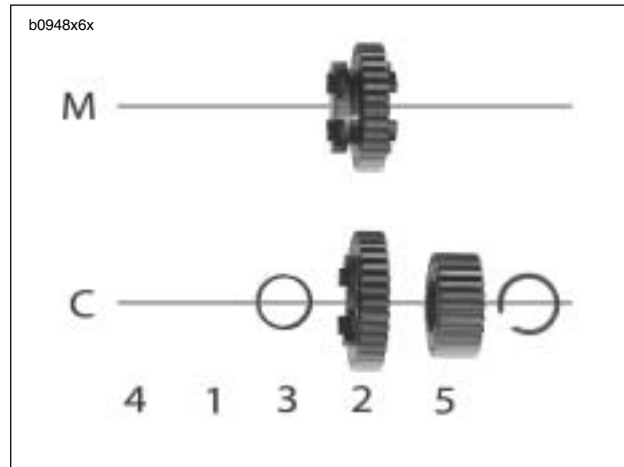

Figure 6-59. Transmission Parts Identification
- See Figure 6-59. As each component is removed, place it on a clean surface in the exact order of removal.